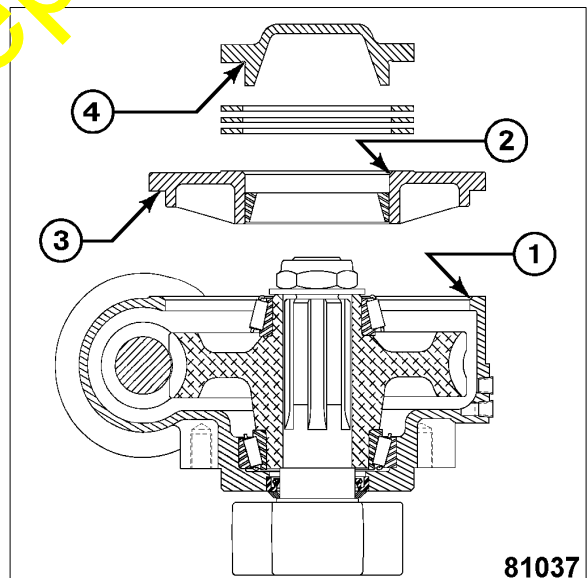

Figure 2
5. Chamfer (.03 inches x 45°) case at (1, Figure 2) and case cover at (2). Protect the inside of the gearcase from foreign material.
6. Thoroughly clean mating surfaces of case and cover with degreasing solvent; apply primer "N" to chamfered case surface (1) and apply .06 bead of Loctite 518 to cover (3) on mating surface between the cover and case.
9. After shim pak is determined, thoroughly clean mating surfaces with degreasing solvent; apply primer "N" to chamfered cover surface (2, Figure 2) and apply .06 bead of Loctite 518 to bearing retainer (4) at the root of the radius.